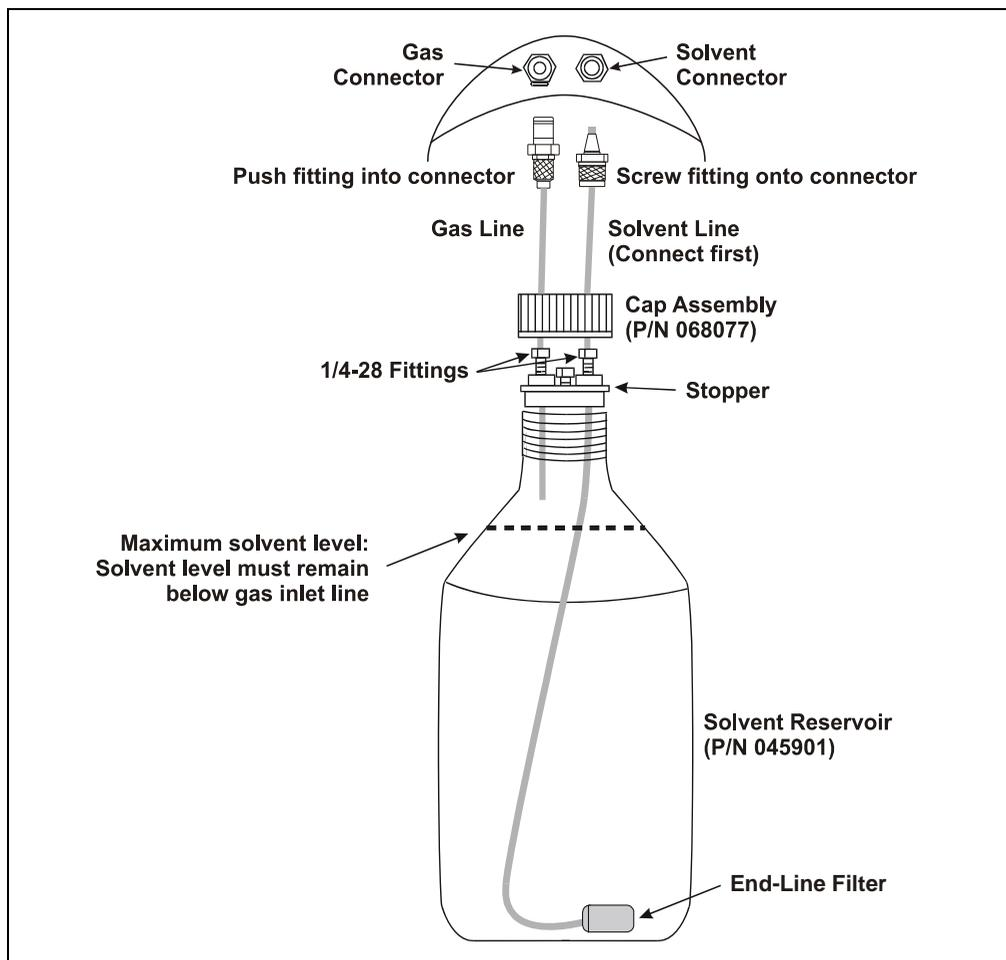

Figure B-7. Solvent Reservoir Connections
Never fill the solvent reservoir or disconnect the tubing connections to the solvent and gas connectors (see Figure B-7) during a run or rinse cycle. At these times, the solvent reservoir is pressurized. If you remove the reservoir cap when the solvent reservoir is pressurized, the Dionex ASE 350 may not operate to specification.
1. Fill the solvent reservoir (P/N 045901) with prepared solvent (for example, acetone) to the level indicated in Figure B-7.
2. Insert the solvent line extending from the underside of the reservoir cap assembly (P/N 068077) into the reservoir (see Figure B-7). Make sure the end-line filter rests on the bottom of the reservoir.